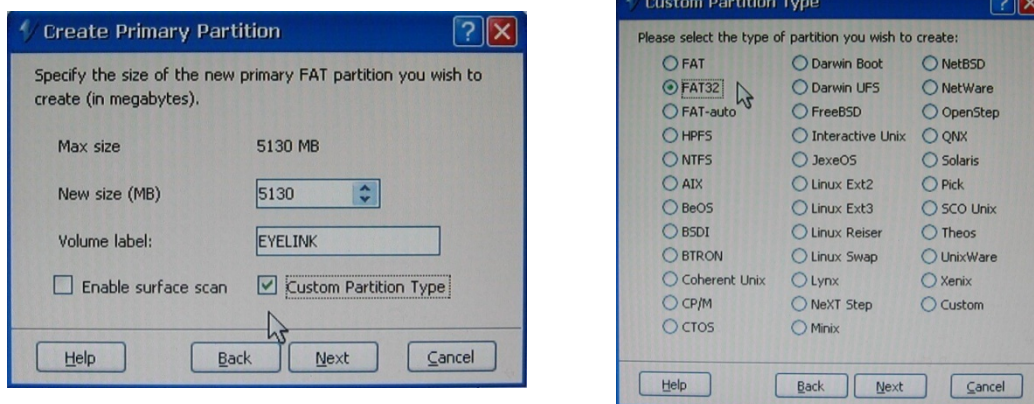

Figure 11-6: Create a Custom FAT 32 Partition
2. Select 'Primary' and click 'Next' which will bring up the 'Create Primary Partition' window as illustrated in the left side of Figure 11-6. In the 'Volume label' field type EYELINK and **ensure that the 'Custom Partition Type' box is checked.** Click 'Next' to bring up the 'Custom Partition Type' window as illustrated in Figure 11-6, right, and select 'FAT-32' then click 'Next'. In the following 'Warning!' window, click 'Proceed'.